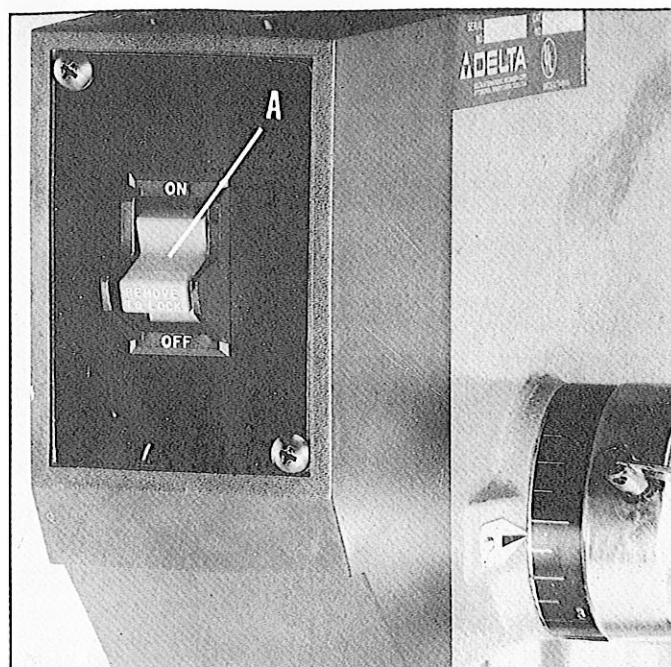

Fig 26
The switch (A) Fig. 26, is located on the front of the drill press head. To turn the drill press "ON" move the switch to the up position. To turn the drill press, "OFF" move the switch to the down position.